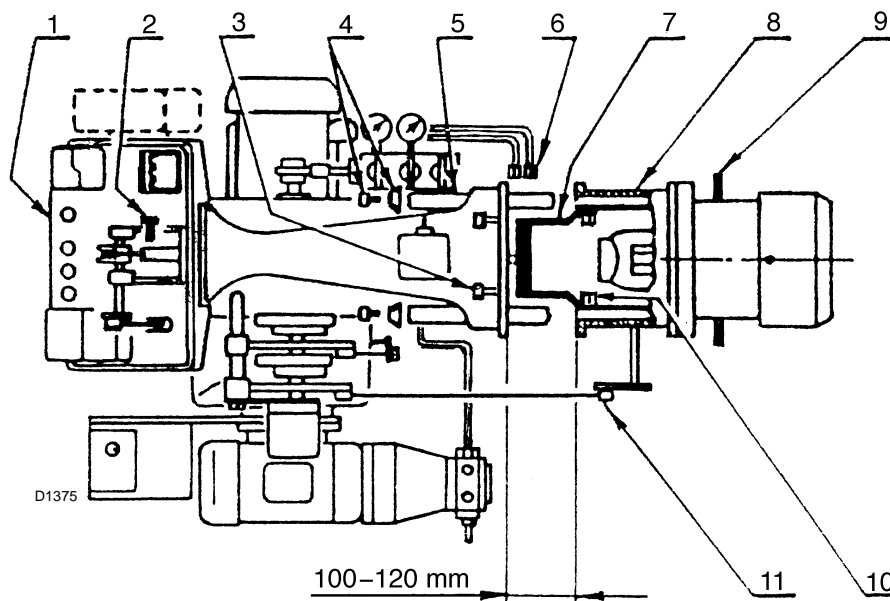

Fig. 10
- remove the cover from bracket 1)(Fig. 10), pin 2), stops 4) and screws 3).